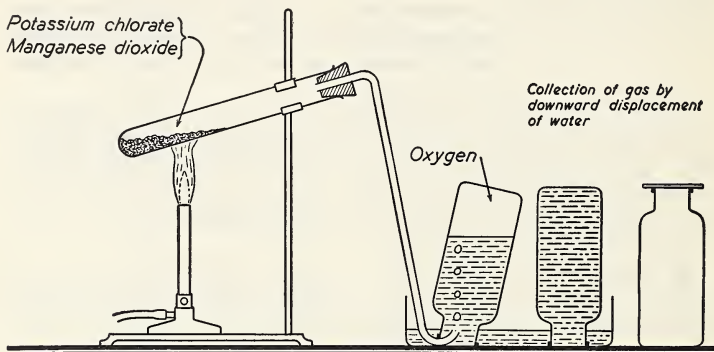

Fig. 24. The laboratory preparation and collection of oxygen.
2. Set up the apparatus as shown in Figure 24. Before the gas bottles are placed in the pneumatic trough, fill each with water until